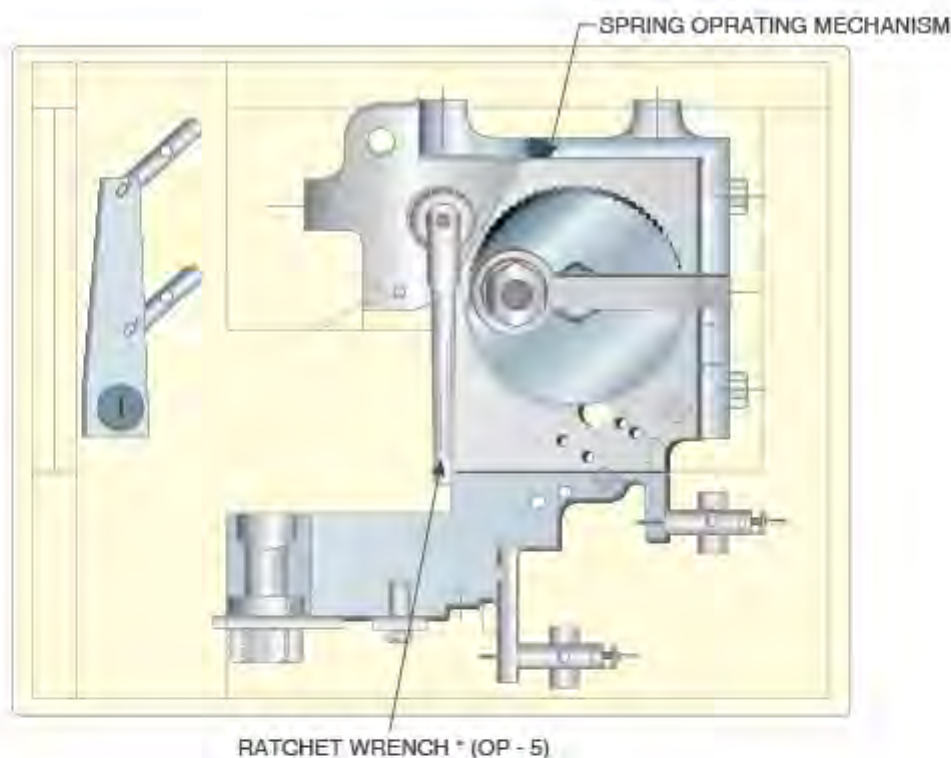

FIG. 14
6.6.2 Manual charging of Closing Spring (Refer to Figs. 14 and 15)